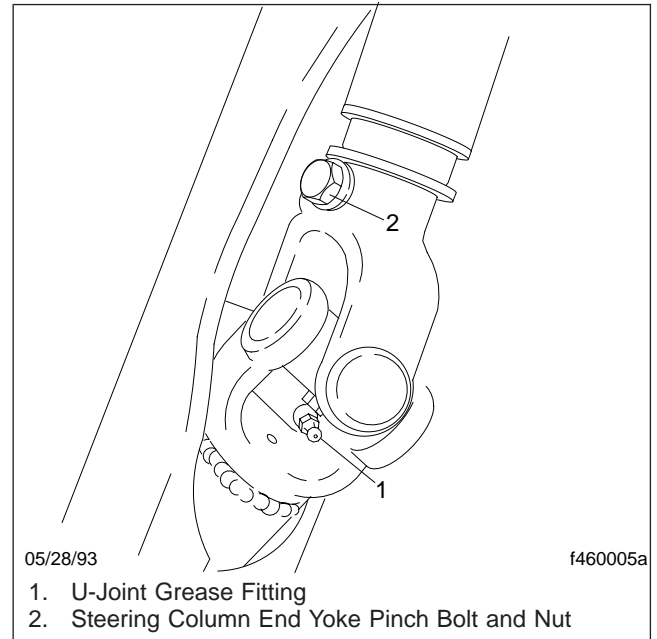
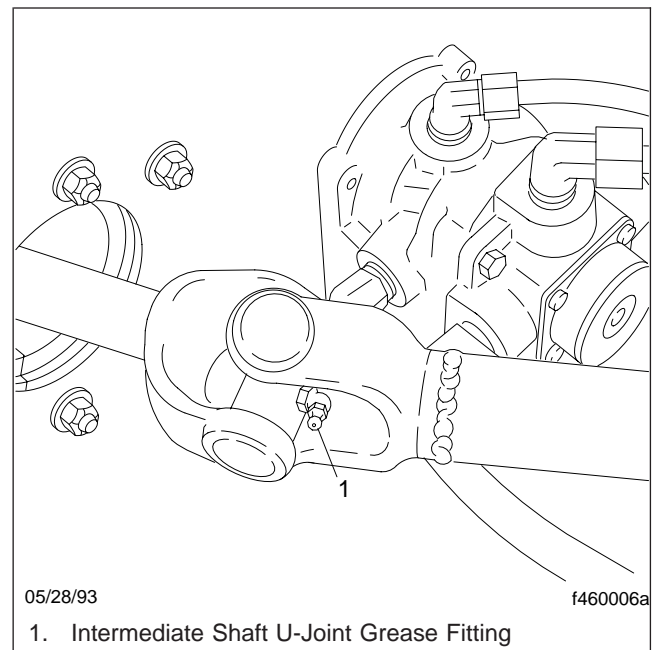
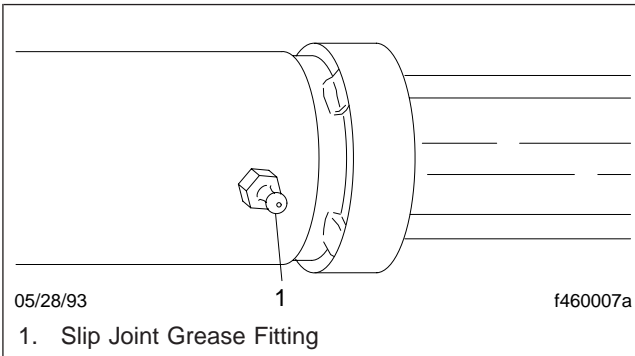
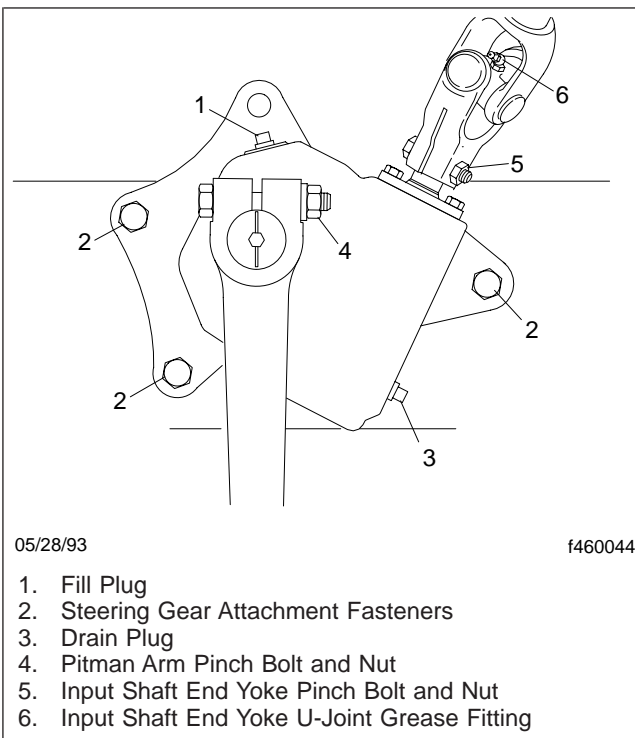

Fig. 1, Steering Driveline Upper Universal Joint
Fig. 2, Steering Driveline Intermediate Universal Joint
Fig. 3, Steering Driveline Slip Joint
Fig. 4, TRW Model 503 Manual Steering Gear
Wipe the steering driveline grease fittings clean. See Fig. 1, Fig. 2, Fig. 3, and Fig. 4. Using a pressure gun, apply multipurpose chassis grease sparingly to the universal joints and slip-joint splines. For an FLA or an FLB, lubricate the slip-joint splines only when the cab is in the operating position. Turn the front wheels to the left for better access to the driveline.
1. Remove the fill plug from the top of the steering gear housing. See Fig. 4.
1. While the steering gear lubricant is still warm, remove the steering gear drain plug and drain the old lubricant. Lubricant will drain faster if the fill plug is also removed. See Fig. 4. After all lu-